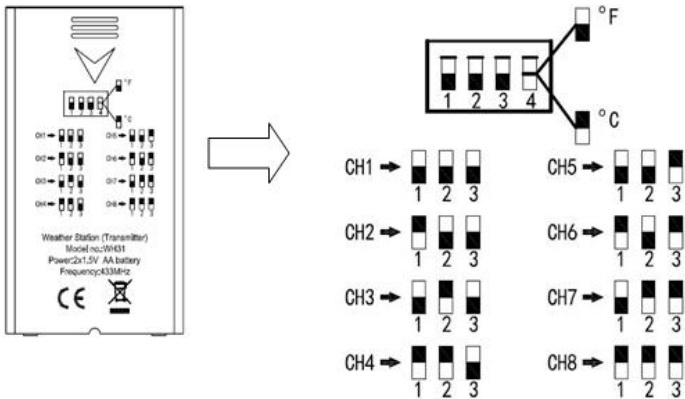

Figure 15: Dip Switch diagram
3. **Channel Number:** The device supports up to eight sensors. To set each channel number, change Dip Switches 1, 2 and 3, as referenced in Figure 15 .
4. **Temperature Units of Measure:** To change the transmitter display units of measure ($^{\circ}\text{F}$ vs. $^{\circ}\text{C}$), change Dip Switch 4, as referenced in Figure 15 .